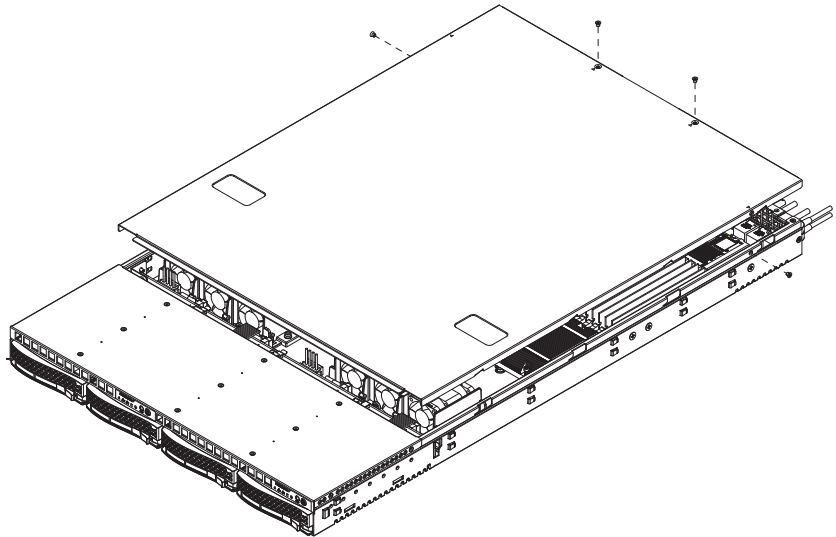

Figure 2-4. Accessing the Inside of the System
1. Accessing the inside of the System (see Figure 2-4)